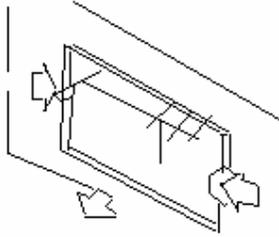

Fig.2-5
(2) Take down the whole printer from the instrument, according to Fig.2-5, please be sure that the power is off before taking down the printer.